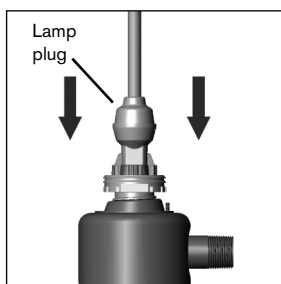

Figure 10
4. Push the plug onto the end of the lamp while ensuring that the male tab on the lamp inserts into the female tab on the plug (Figure 10).